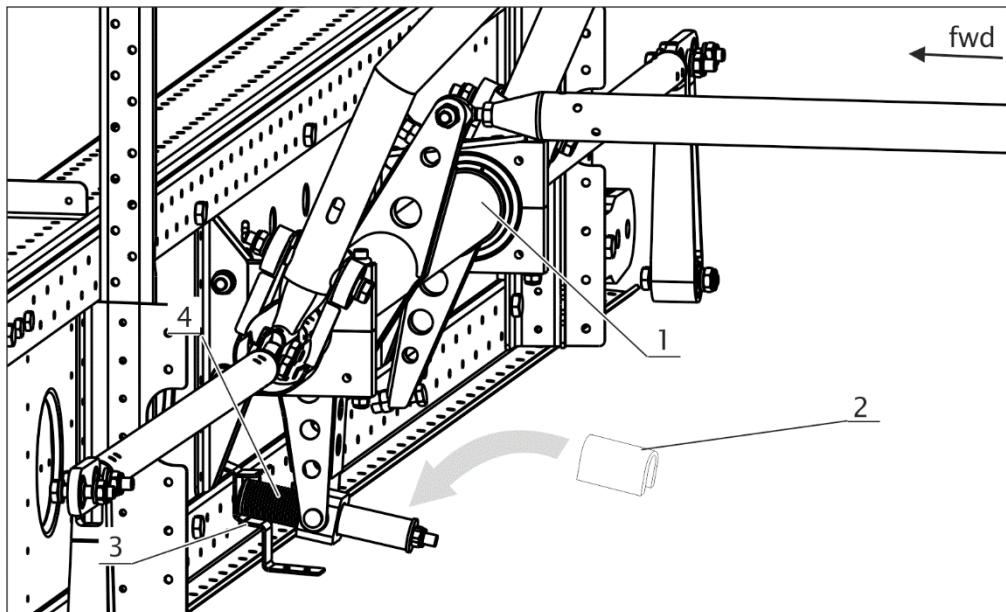

Figure 7 Elevator Down Spring
Refer to Figure 7.
- ▶ Place a spacer (2) as shown in Figure 7 to fix elevator down spring (4) in compressed position.
- ▶ Place control stick in neutral position. The down spring is thus released from the bracket (3).
- ▶ After measurement place compressed elevator down spring (4) in bracket (3) as shown in Figure 7.
- ▶ Pull control stick aft and hold and remove spacer (2).